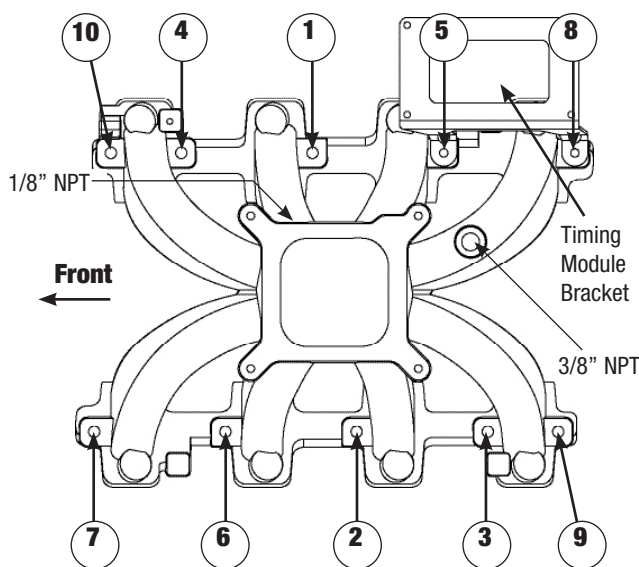

Figure 1 - Intake Manifold Tightening Sequence
3. Following the torque sequence in **Figure 1**, torque all manifold bolts to 11 ft/lbs.
5. (#2908 Only) Apply a bit of liquid Teflon thread sealant to the threads of the supplied 1/8" NPT to 1/4" hose fitting and install the fitting into the 1/8" NPT hole in the passenger side of the plenum (**See Figure 1**). Install your carburetor and using the rear passenger side carburetor stud/nut, attach the MAP sensor and bracket to the carburetor (**See Figure 3**). Connect the sensor to the fitting with the supplied 1/4" hose.